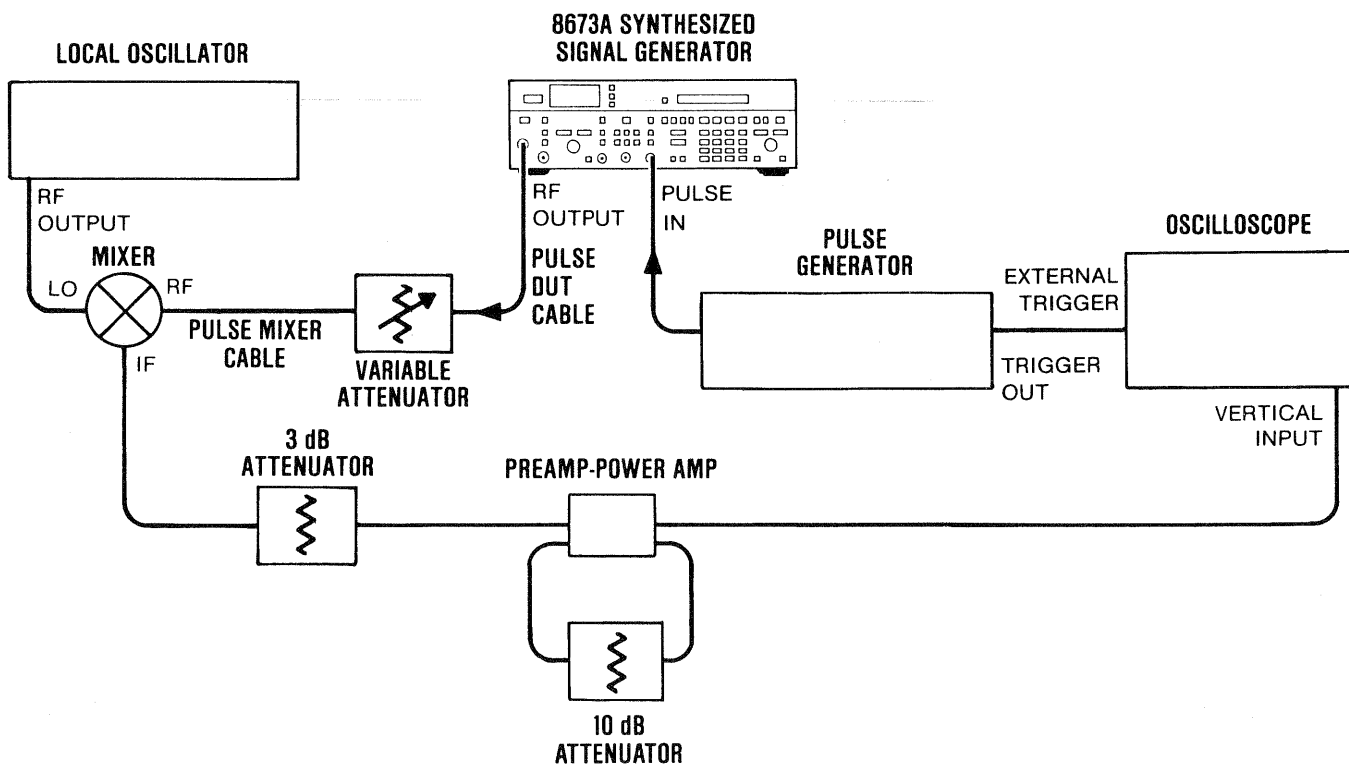
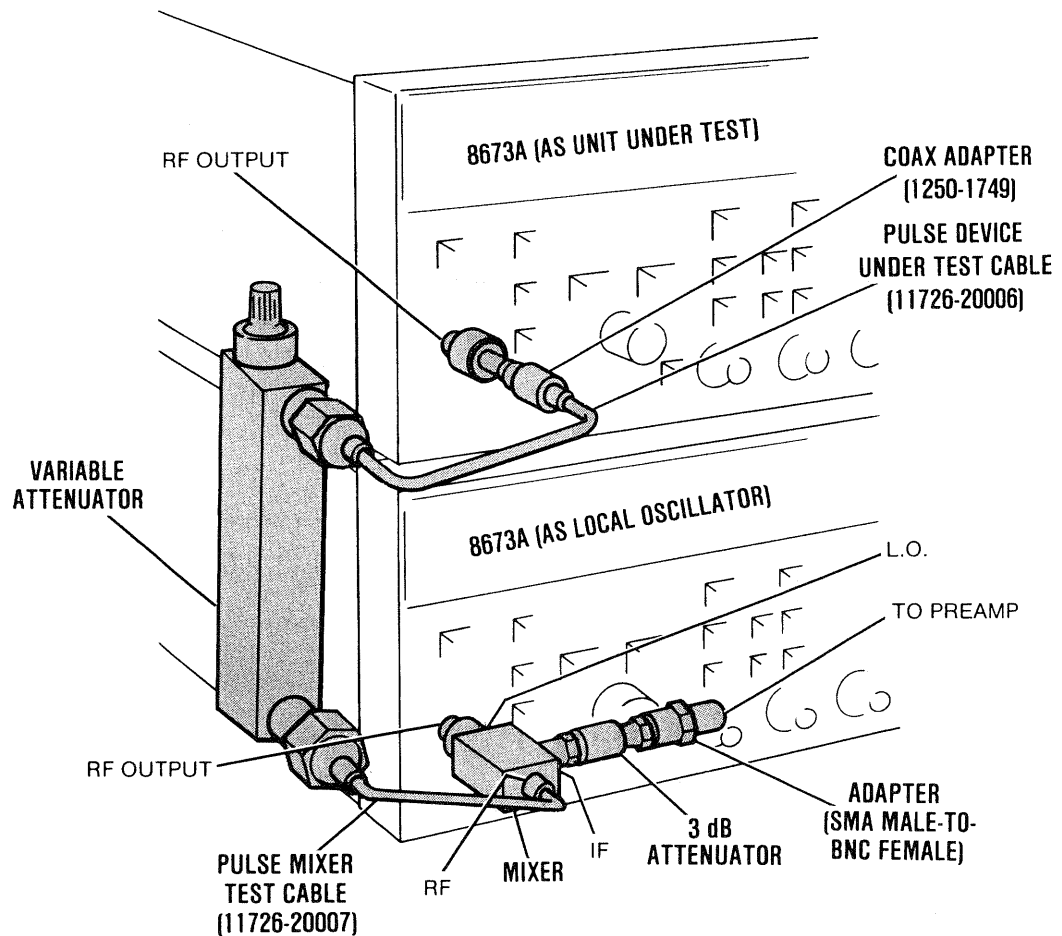

Figure 4-12. Pulse Test Setup
Figure 4-13. Required Equipment Interconnect
1. Connect equipment as shown in Figure 4-12. See Figure 4-13 for the required physical interconnections.